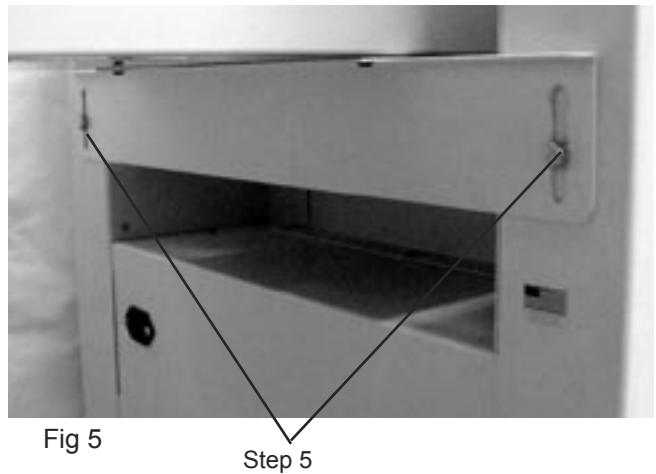

Fig 5
5. Once the conveyor is securely mounted, the bracket can be adjusted up or down to level the conveyor. Loosen the allen screws and slide up or down and retighten (Fig 5).